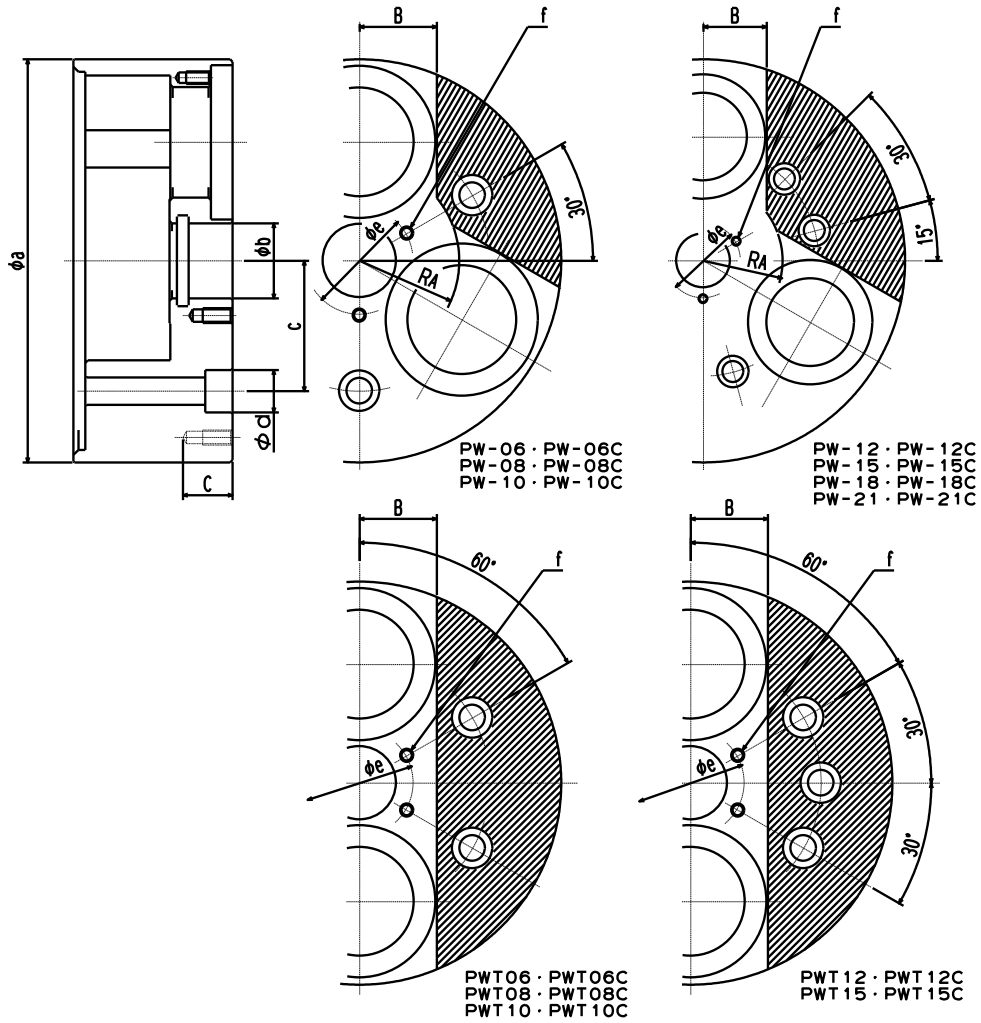

Fig.16
- In the case of attaching the locator and the jig on the chuck body surface, tap or drill a hole in the additional process range specified in Fig. 16